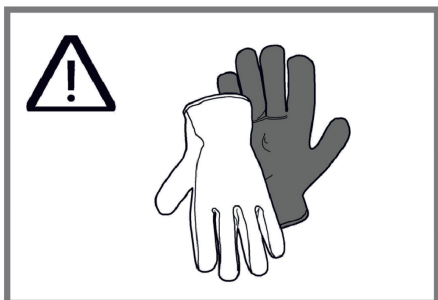

Fig. 12
- Parts inside the appliance may have sharp edges. Use protective gloves (Fig. 12).